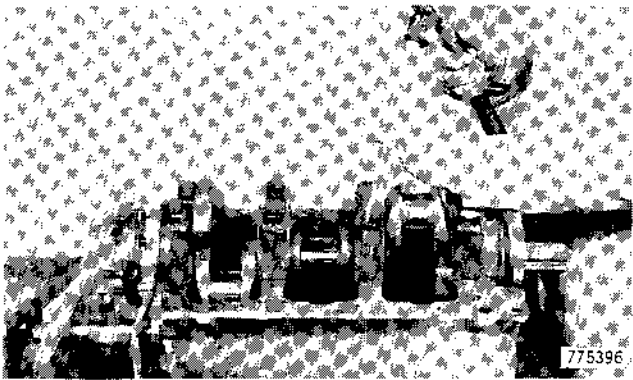

Figure 44
2. Bend the tabs on the tab washers away from the heads of the cap screws on the main bearing caps, Figure 44.